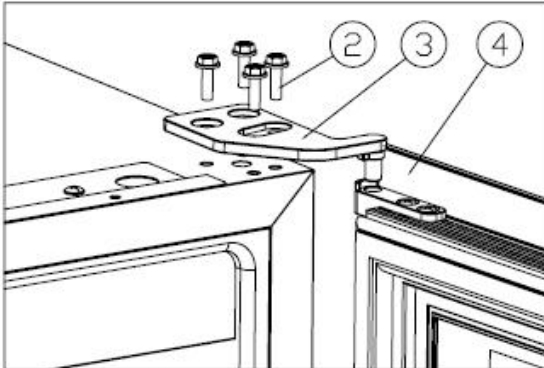

Figure 1
- ✧ Unscrew the M5*16screws②, dismantle the right upper hinge③, and remove the door.[Figure 1].